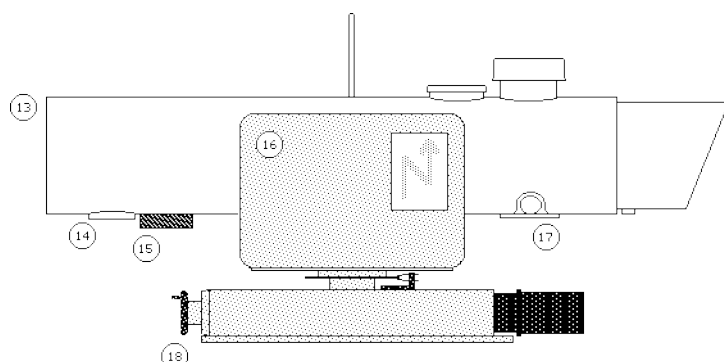

Figure 1.2. The transceiver, the right hand side.
There are three fine adjustment screws. One is reached from the front (the focusing screw), one is reached through an access hole in the base plate (the vertical screw), and the last one (the horizontal screw) is reached through the telescope side plate (item 17 in figure 1.2).